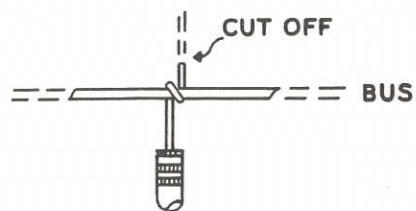

Figure 9
- ( ) Bend all the upright leads around the bus and solder all eleven connections. See Figure 9. Cut off excess leads.
- ( ) Connect a short bare wire between lug 2 (S) on the POSITION control and the ground bus (S).